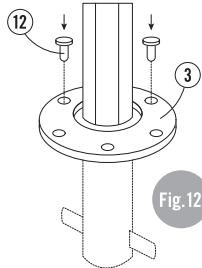

Fig. 12
- Unscrew jacking ring from ground socket and fix above the hand crank, with padding (Fig. 12).